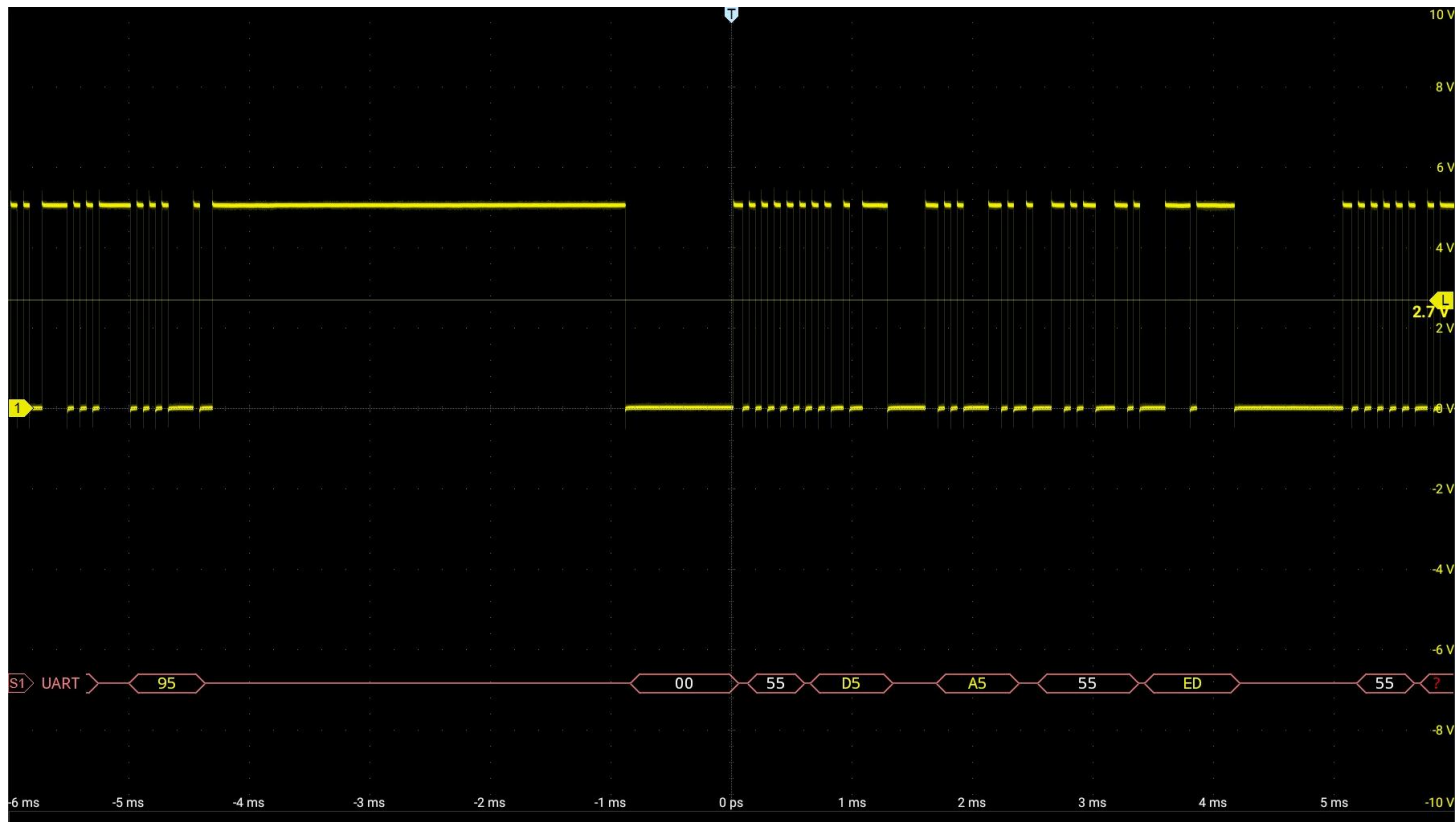

Figure 12-7 UART Decode Level Adjustment
- (1) Tap S1 to open the decode channel, and click S1 again to open the bus configuration menu;
- (2) Select the bus type as “UART”, click “Ch1”, “Idle High”, “Parity None”, “8bit”, “19.20kb/s”, display “hexadecimal”, then close menu;
- (3) Open the trigger mode setting menu, click “Data”, enter 55 manually, and press “enter” to confirm;
- (4) Adjusting the threshold level according to the amplitude level of signal may make the signal to be stably triggered. The UART trigger graphic interface is shown in Figure 12-7: